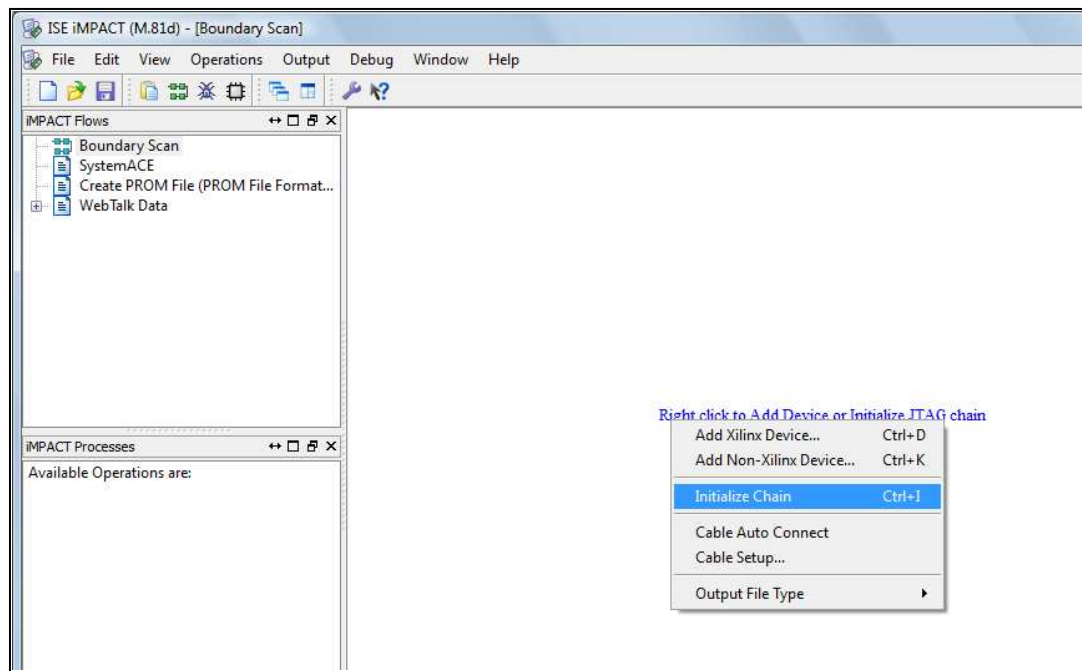

Figure 6.51: iMPACT window, showing Initialize Chain selected.
6. Right click on the text “Right click to Add Device or Initialize JTAG Chain”, and select **Initialise Chain**, as shown in Figure 6.51.